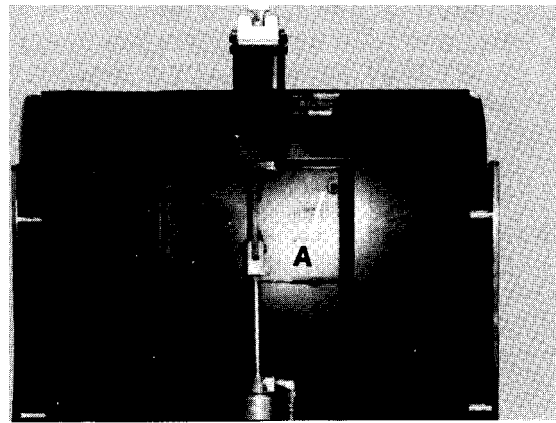

Fig. 5
- 2) Remove the (4) screws located inside the recessed area of the metal back frame. (Item A, Fig. 5)
- 4) Align holes on back section and install (4) #10-24 x 5/8" screws. Item A, Fig. 5.